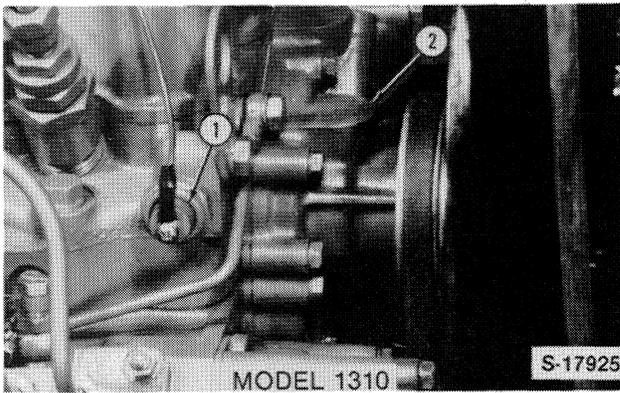

Figure 9
10. **Model 1310 only:** Remove the oil sender switch from the right hand side of the cylinder head, Figure 9.
- 11. **Model 1310 only:** Remove the water pump and thermostat assembly, Figure 9.